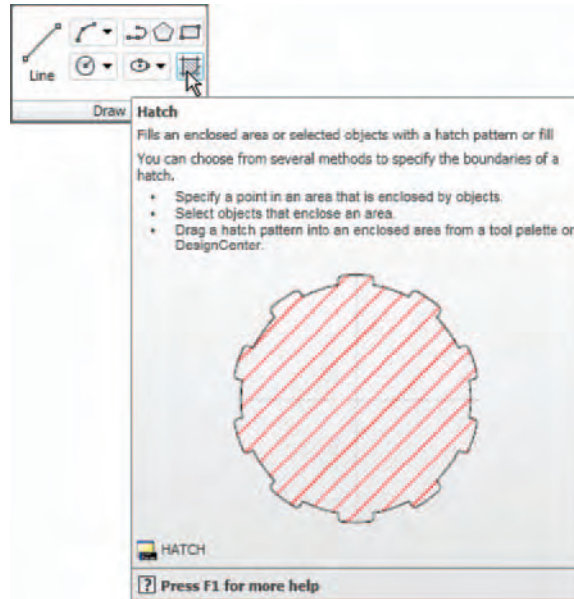

Fig. 7.11 The **Hatch** tool icon and tooltip from the **Home/Draw** panel
1. Call the **Hatch** tool – either *left-click* on its tool icon in the **Home/Draw** panel (Fig. 7.11), *click* the tool in the **Draw** toolbar, or *enter h*